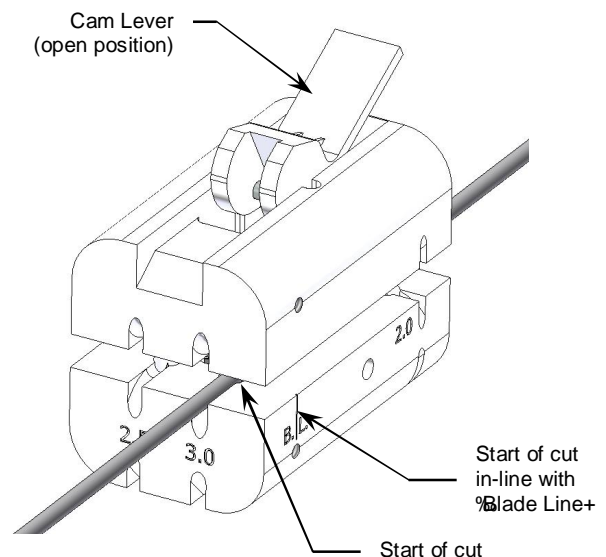

Figure 2
- Position the tube in the appropriate channel, ensuring it is fully aligned. The blades are located at a groove mark, where indicated by B.L. This blade line is where the cut will start. (Figure 2)